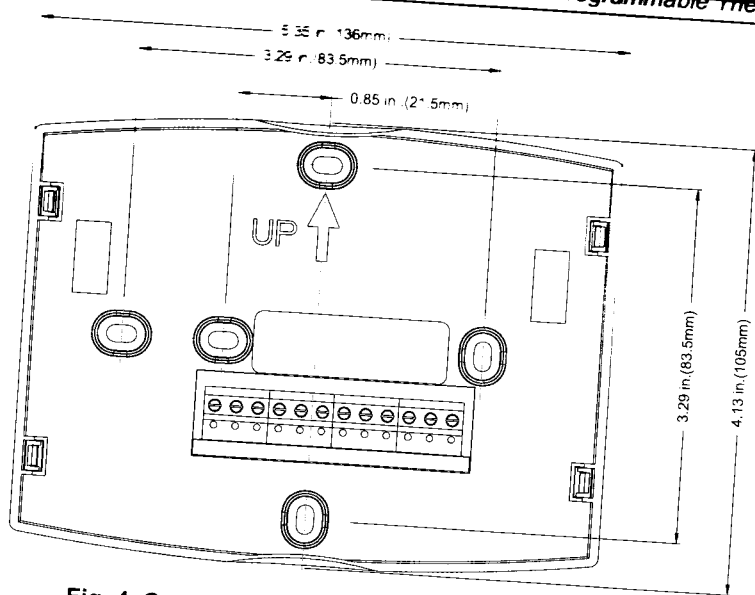

Fig. 4. Cover Plate dimensions in inches. (mm).
4. A3101 Cover Plate: see Fig 4.